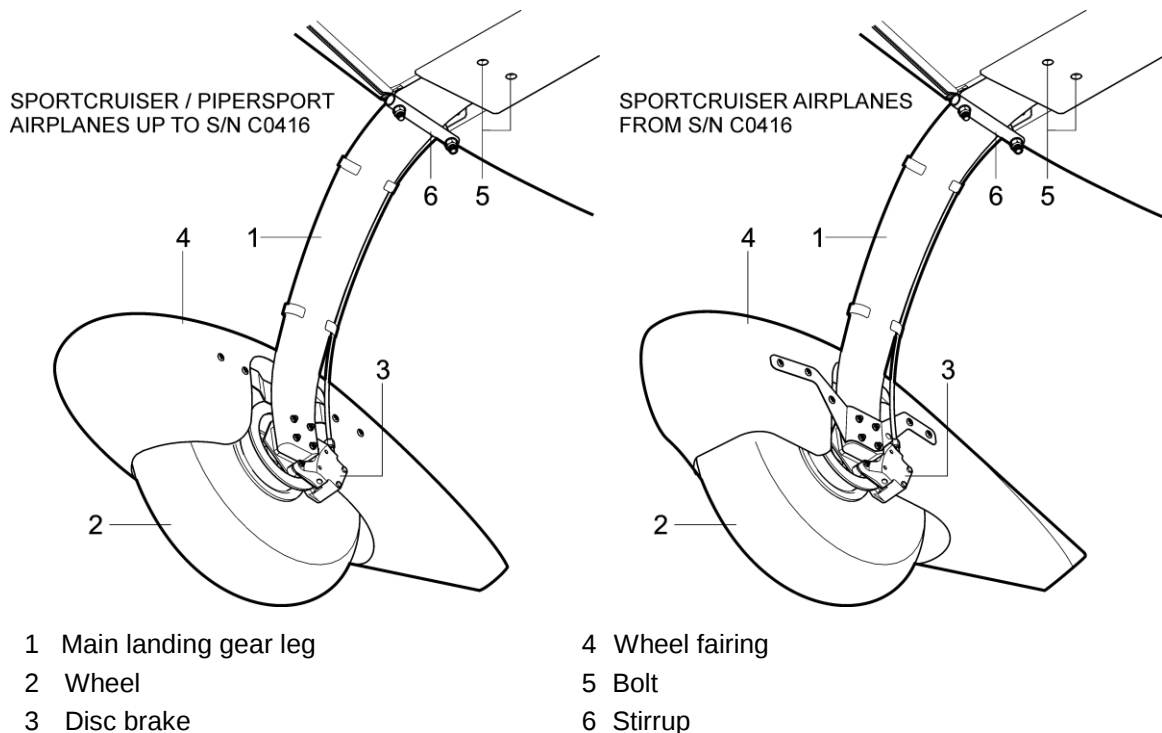

Fig. 8-1: Main landing gear, right
The main landing gear consists of the composite landing gear leg (1, Fig. 8-1), wheel axle and wheel (2) equipped with the disc brake (3). The landing gear legs are inserted in the gear channel under the seats, where they are attached by two bolts (5) and stirrup (6).